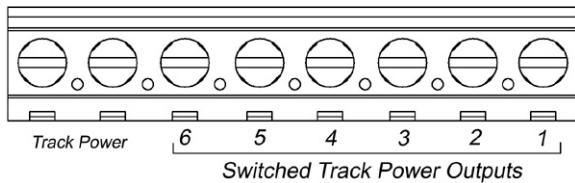

Figure 7
2. **TRACK POWER** – Figure 7 shows one of the terminal blocks on the relay board. The left most two terminals are connected together and track power line that is to be switched is connected into one of these terminals. The other terminals are connected to the rail to be switched. See examples in Appendix A. The relay board has two of these terminal blocks on it. The Track Power terminals of these two blocks **are not connected**. You must connect them to the track power individually or connect a wire between them using one of the two terminals. The power to the to blocks are not connected together to provide additional flexibility to the user. A master override toggle switch could switch the power to these blocks for example.